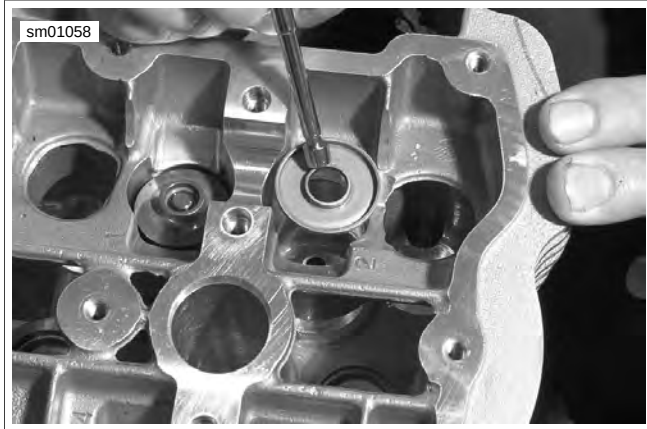

Figure 3-75. Lower Spring Collar
3. See Figure 3-75. Insert lower spring collar.